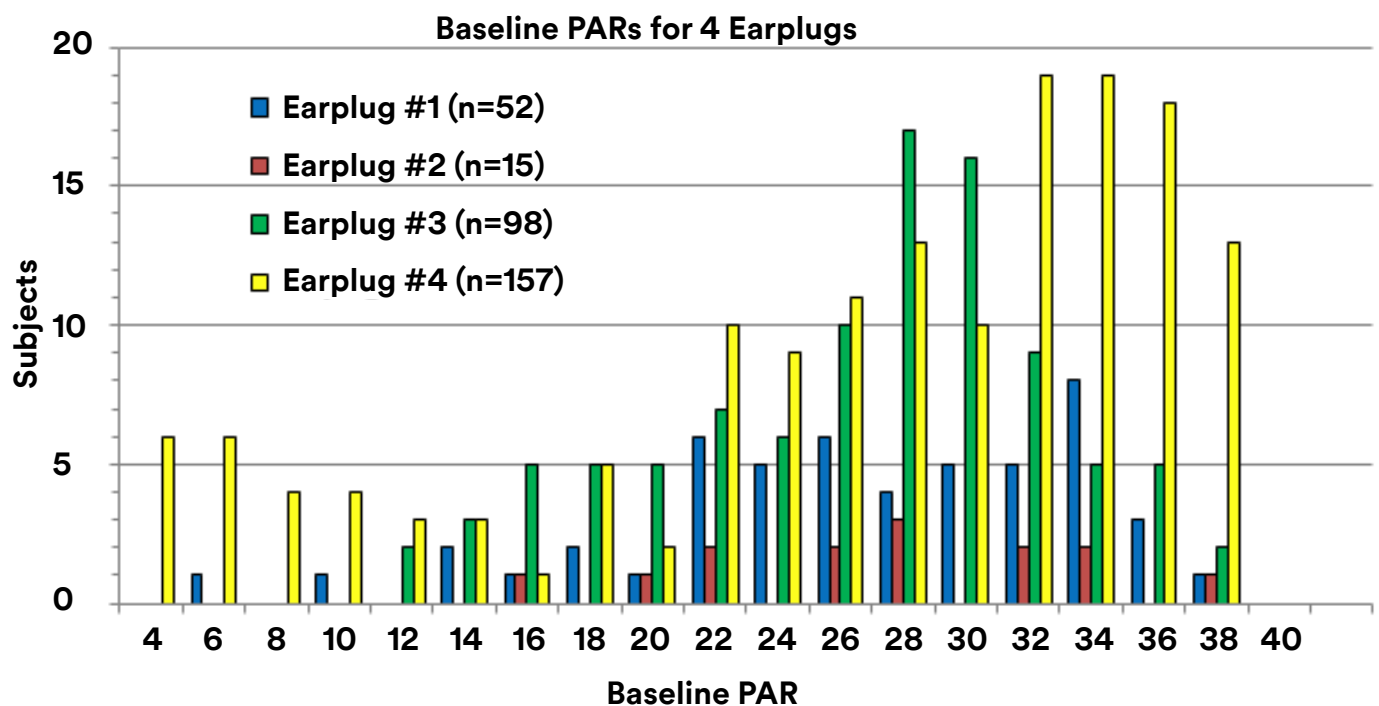

Figure 1 – Initial baseline PAR measurements of 4 earplugs for a group of manufacturing workers (n=322).
The measurement of attenuation for a fit-tested hearing protector is displayed as a PAR. To be sure that your employees are getting the protection they need, you should to know the PAR of every employee. Hearing protector ratings such as the noise reduction rating (NRR), the single number rating (SNR) and the sound level conversion (SLC80) are derived from measurements gathered in a carefully controlled laboratory environment. Although the ratings are an accurate measurement of the capabilities of a particular hearing protector under the specific test conditions, they may not represent what an individual worker will achieve when the device is worn. Most employees receive adequate protection, while some may not if they are not using the hearing protector correctly or have not chosen the correct size or style (Figure 1). Note the wide range of PAR values tested on four (4) earplugs considered high attenuating according to their labeled values.